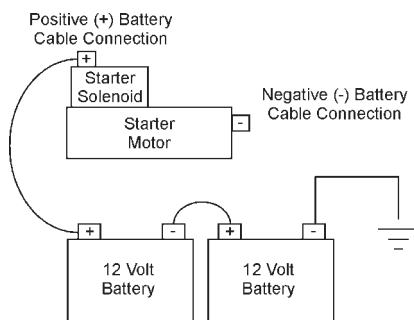

Figure 17. Typical Electric Starter Motor Connections
- b. Apply a load test equal to 1/2 of the cold cranking rating of the battery at 0°F (-17.8°C). Read voltage after fifteen (15) seconds with the load connected. Remove load. Estimate or measure the battery temperature and compare voltage reading with the voltage chart (see Figure 17 on page 53). If the voltage is less than the minimum specified, replace the battery. If the voltage meets or exceeds the specified minimum, return the battery to service.